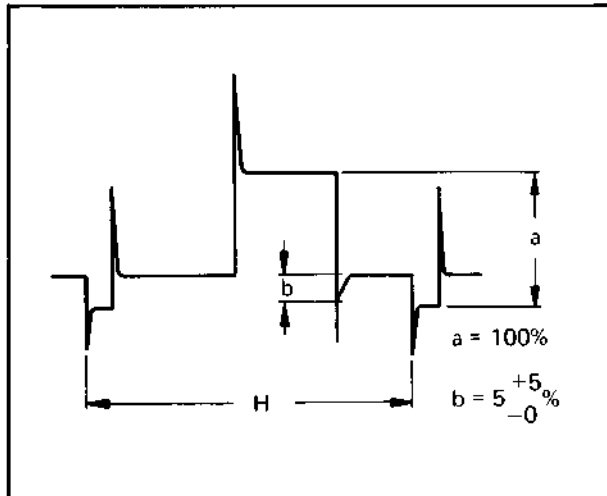

Fig. 5-24 Aperture adjustment
4. Adjust R54 (APERTURE) so that the amplitude of (a) and (b) becomes as shown in Fig. 5-24.